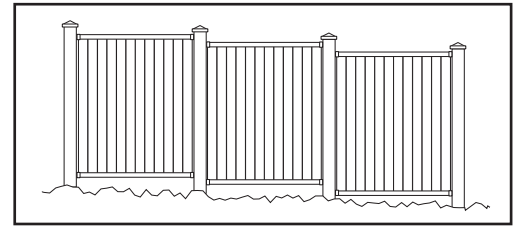

Figure 1
- Careful planning and measuring of your fence project is essential, as moving posts after the concrete sets is extremely difficult. Most yards are relatively level and will allow for a fairly simple installation. If your yard is steeply pitched or is very uneven, be sure to allow for the required mounting height of the adjacent panel when setting your posts. You may need to "stair step" the panels in extreme cases. See Figure 1.